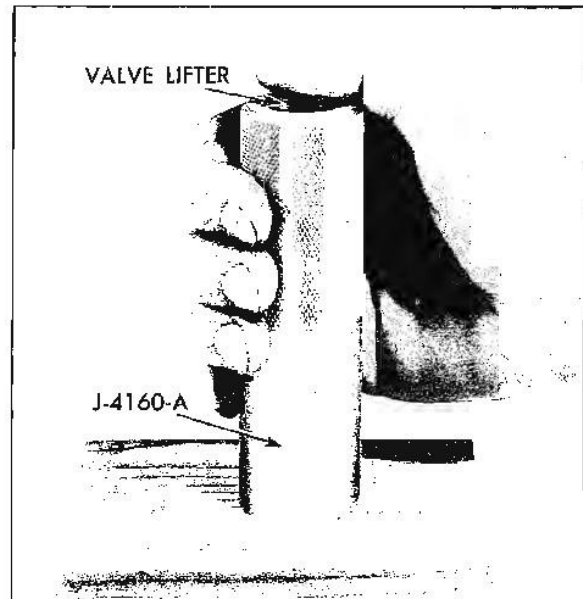

Fig. 6-18 Removing Stuck Plunger
2. Invert lifter and allow push rod seat and plunger to slide out of body. If plunger sticks in body, place lifter in large end of hydraulic valve lifter plunger remover, J-4160-A, with push rod end of lifter downward. Hold tool firmly in hand with thumb over lifter body and sharply strike tool against a block of wood (Fig. 6-18) until plunger falls out.